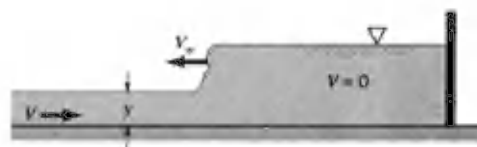

FIGURE P10.14R
10.14R (Hydraulic jump) Water flows in a rectangular channel with velocity  $V = 6 \text{ m/s}$ . A gate at the end of the channel is suddenly closed so that a wave (a moving hydraulic jump) travels upstream with velocity  $V_w = 2 \text{ m/s}$  as is indicated in Fig. P10.14R. Determine the depths ahead of and behind the wave. Note that this is an unsteady problem for a stationary observer. However, for an observer moving to the left with velocity  $V_w$ , the flow appears as a steady hydraulic jump.